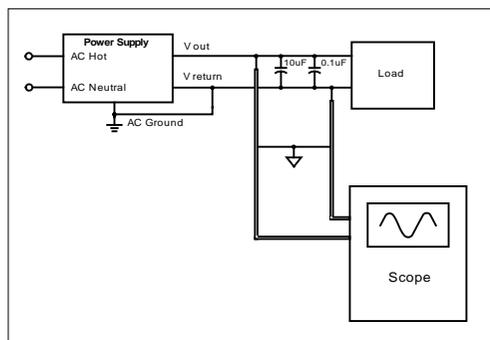

Figure 1. Ripple/Noise voltage test circuit
The ripple voltage of the outputs shall be measured at the pins of the output connector when terminated in the load impedance specified in figure 1. Ripple and noise are measured at the connectors with a 0.1uF ceramic capacitor and a 10uF electrolytic capacitor to simulate system loading. Ripple shall be measured under any condition of line voltage, output load, line frequency, operation temperature.
2.3.3 Figure1. Ripple/Noise voltage test circuit